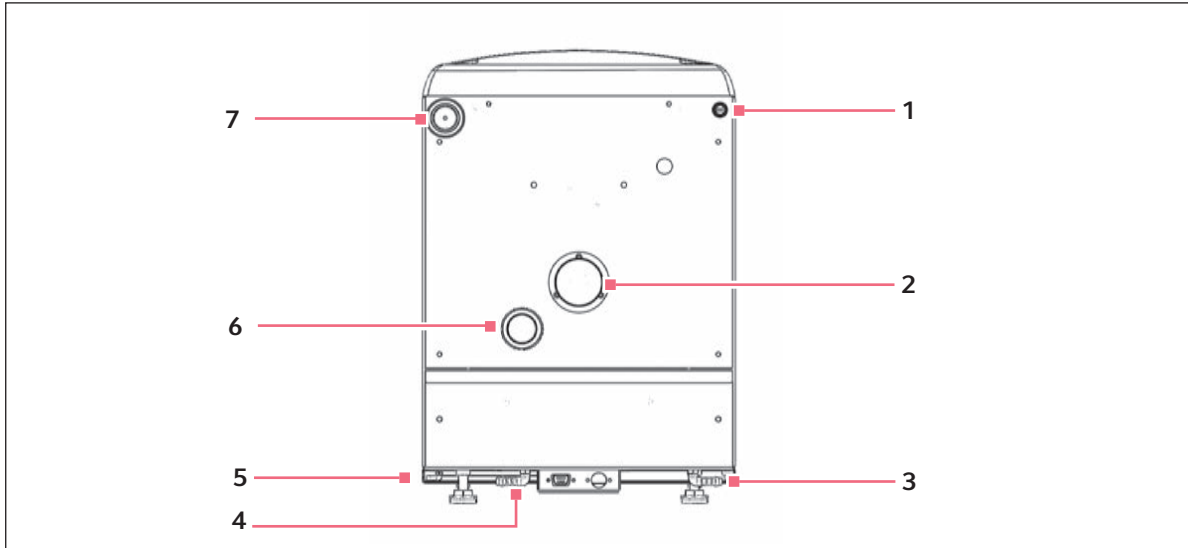

Fig. 4-5: Rear panel
1. Insert the power cord into its receptacle on the bottom left of the incubator's rear panel (see Fig. 4-5 on p. 16).